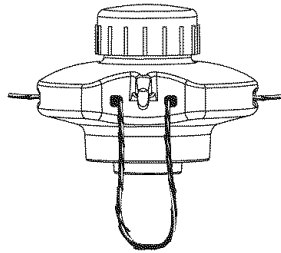

Fig. 13
2. Push the ends through until they stick out of the sides of the head (Fig. 13).